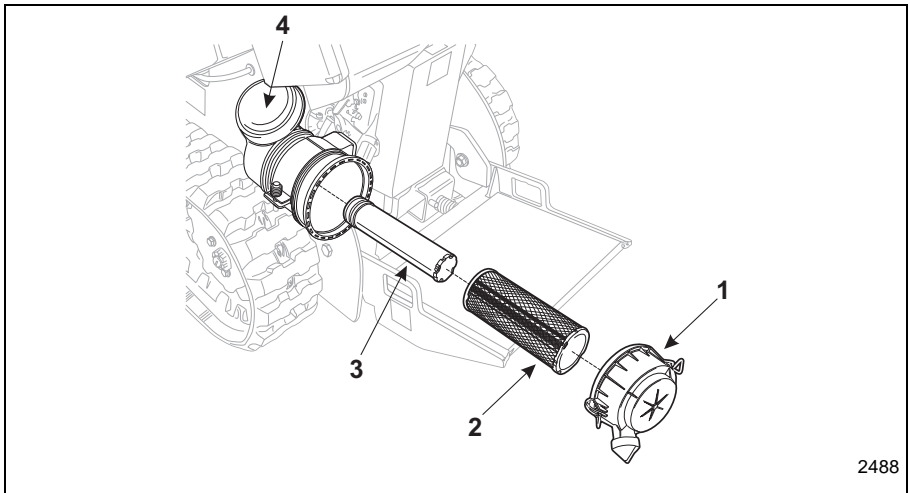

Figure 4-20 Air Filter Assembly
3. Check air filter and replace outer paper element (Item 2, Figure 4-20).
4. Replace the outer paper element* (Item 2, Figure 4-20) and check inner element* (Item 3, Figure 4-20)
- a. Unhook the two retaining clips and remove the end cap (Item 1, Figure 4-20) from the air cleaner housing (Item 4, Figure 4-20).
- b. Pull the outer air cleaner element (Item 2, Figure 4-20) out of the housing.
- i. Reinstall the end cap (Item 1, Figure 4-20) so the dust ejector valve is down and secure the end cap with the two retaining clips.